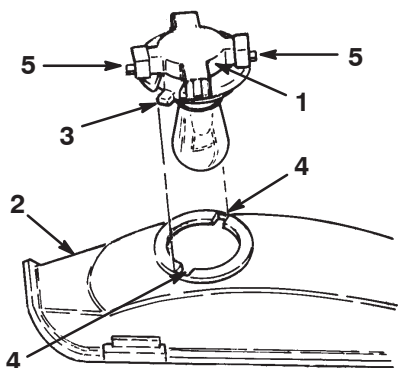

Figure 31
4. Rotate the bulb holder 1/4 turn counterclockwise and remove it from the reflector (Fig. 31).
2. The bulb holder has 2 tabs (Fig. 31). Align the tabs with the slots in the reflector, insert the bulb holder into the reflector, and rotate it 1/4 turn clockwise until it stops.